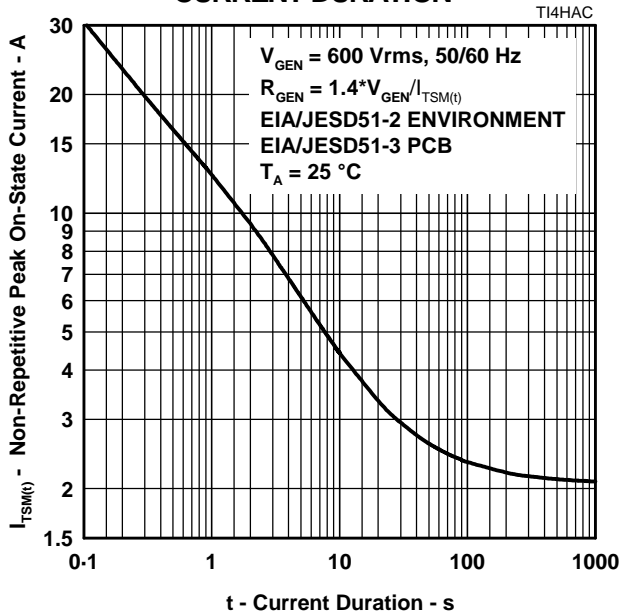

Figure 8.
5. EIA/JESD51-2 environment and EIA/JESD51-3 PCB with standard footprint dimensions connected with 5 A rated printed wiring track widths. See Figure 8 for the current ratings at other durations. Derate current values at $-0.61\text{ }^\circ\text{C}$ for ambient temperatures above $25\text{ }^\circ\text{C}$
The protector can withstand currents applied for times not exceeding those shown in Figure 8. Currents that exceed these times must be terminated or reduced to avoid protector failure. Fuses, PTC (Positive Temperature Coefficient) resistors and fusible resistors are overcurrent protection devices which can be used to reduce the current flow. Protective fuses may range from a few hundred milliamperes to one ampere. In some cases it may be necessary to add some extra series resistance to prevent the fuse opening during impulse testing. The current versus time characteristic of the overcurrent protector must be below the line shown in Figure 8. In some cases there may be a further time limit imposed by the test standard (e.g. UL 1459 wiring simulator failure).